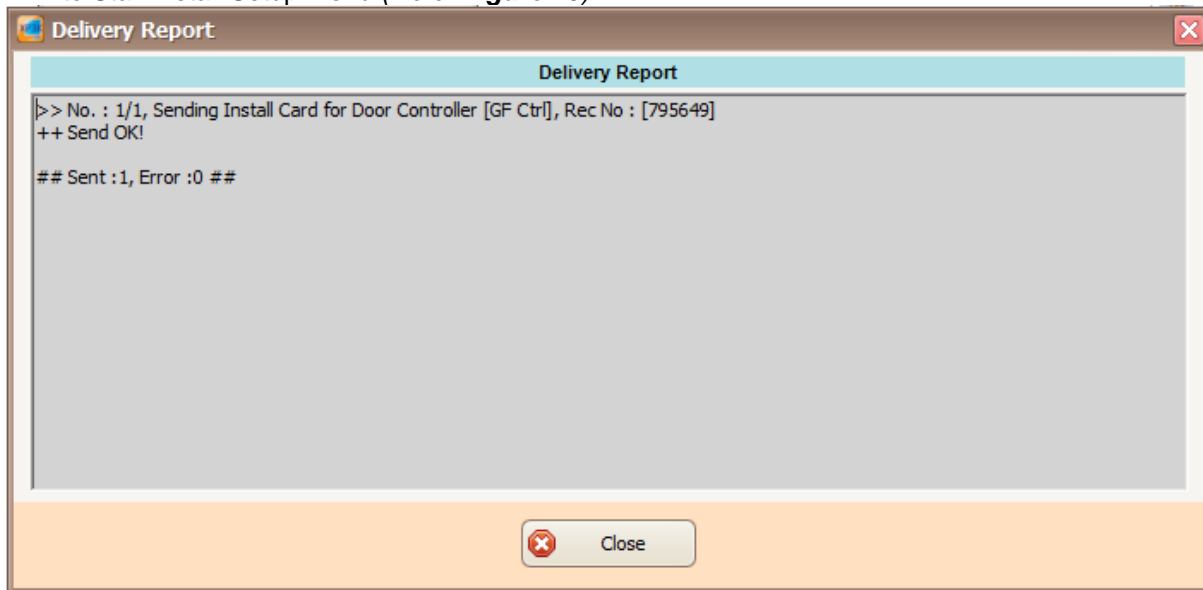

Figure 75 - Delivery Report (Install User)
20. After downloading all the settings, it will display a report of data being sent. Click Close to return to Staff Detail Setup menu (Refer **Figure 75**).